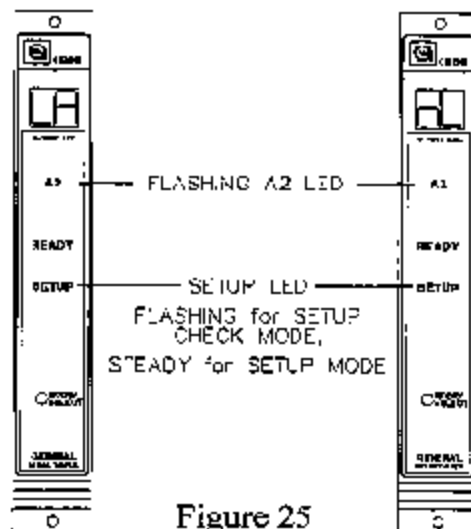

Figure 25
- The **A2 LED** on the front panel will be flashing while the latching/non-latching option is displayed (figure 25). The display will indicate the current selection, (**nL** or **LA**). Latching is the factory default for this selection.